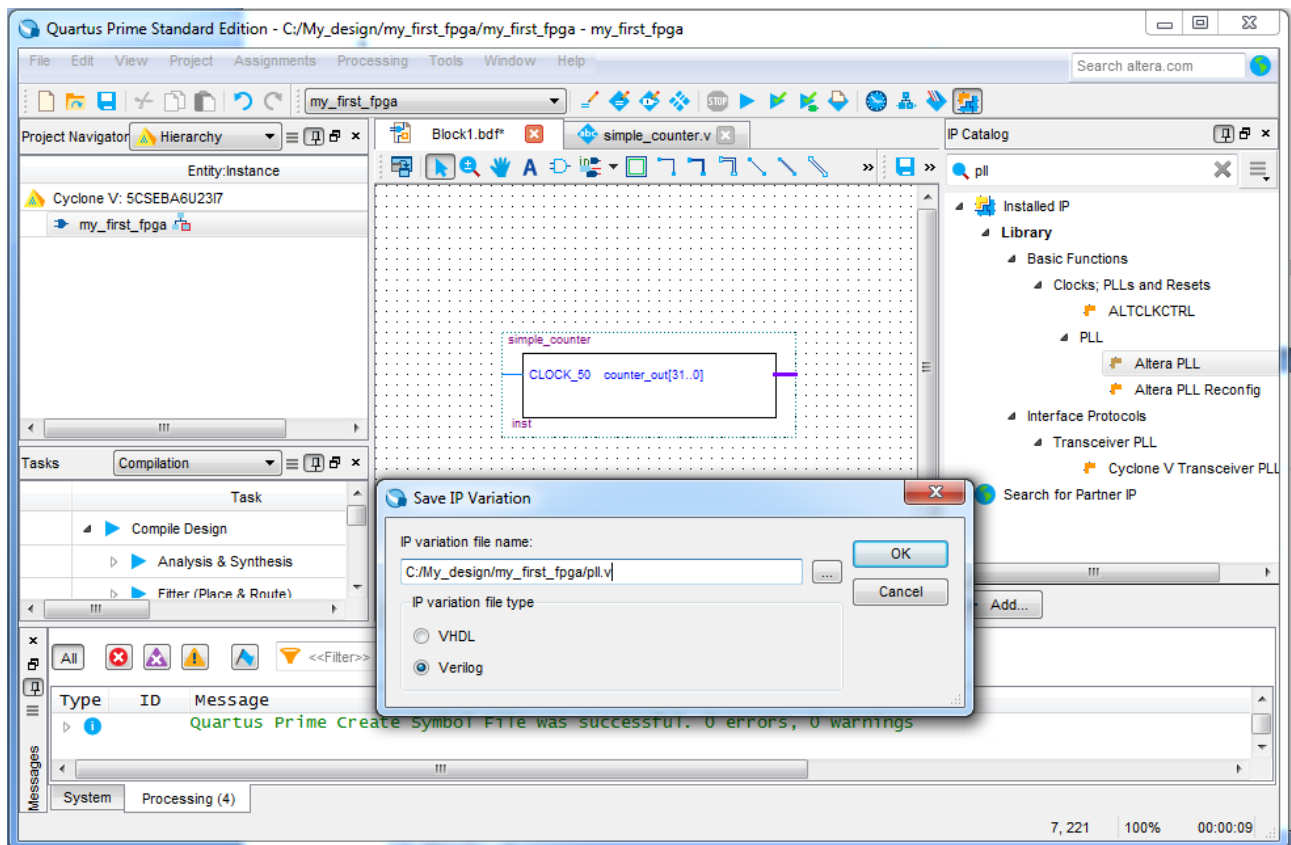

Figure 3-9 IP Catalog Selections
4. Selection Altera PLL in the Library/Clocks/PLL , click "+Add" bar. See **Figure 3-9**